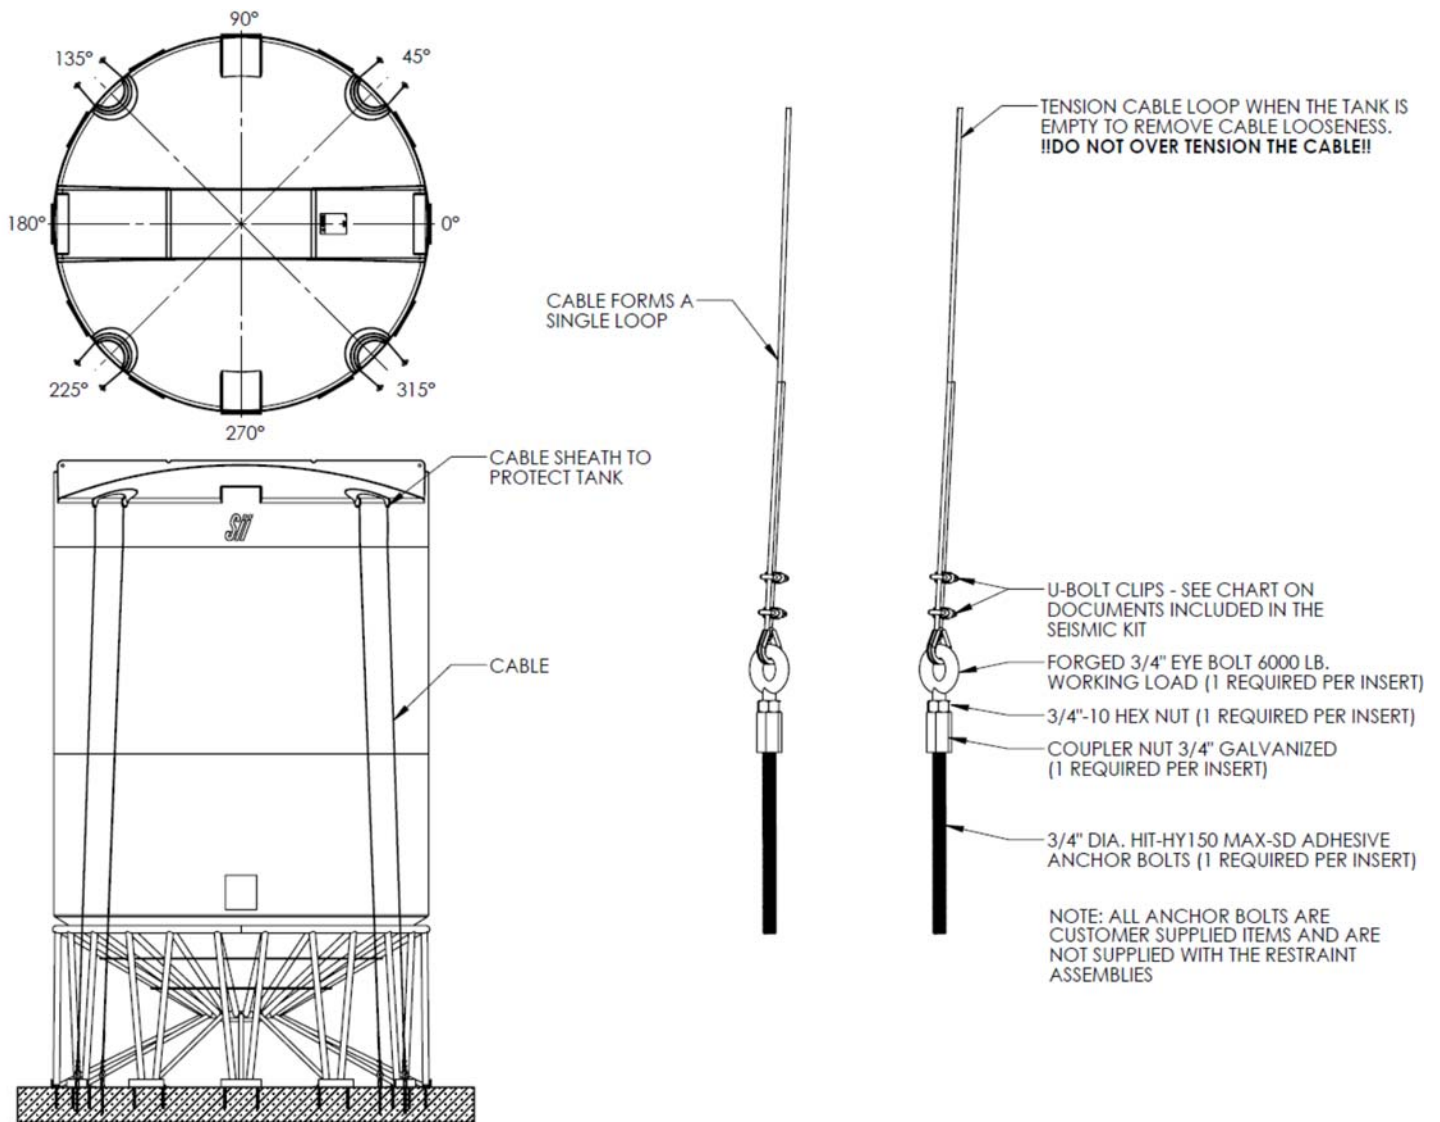

Figure 8.3
8.3.1 The wind/seismic tank restraint system is designed for cone bottom tank restraint on an appropriate concrete pad under 150 MPH wind or IBC/CBC seismic conditions using a SII cone stand for proper tank support. Using the assembly drawing and table shown in Figure 8.3, verify that all parts are present.